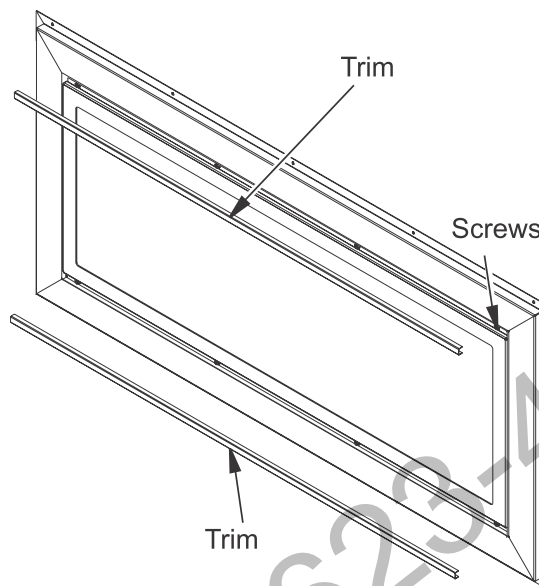

Figure 37 - Removing Exterior Glass Door for Cleaning
1. Using a flat head screw driver, pop out the top and bottom trim pieces as shown in Figure 37.